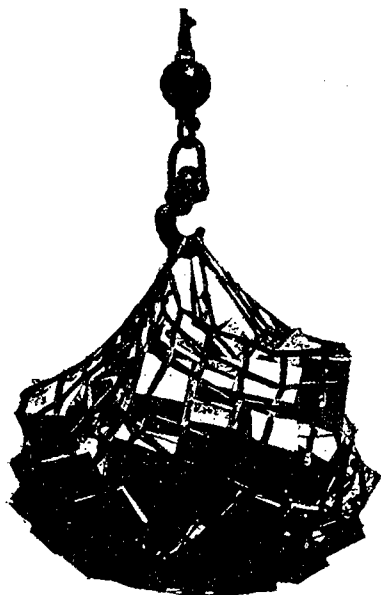

Fig. 7-1c Cargo net
- c. A save-all is a device used to prevent the loss of cargo overboard. The most common type of save-all is the cargo net. However, wood platforms, wire rope nets, or tarpaulins may also be used. There should be a save-all rigged wherever light cargo handling is taking place between the ship and pier (See **Figure 7-1c.**)